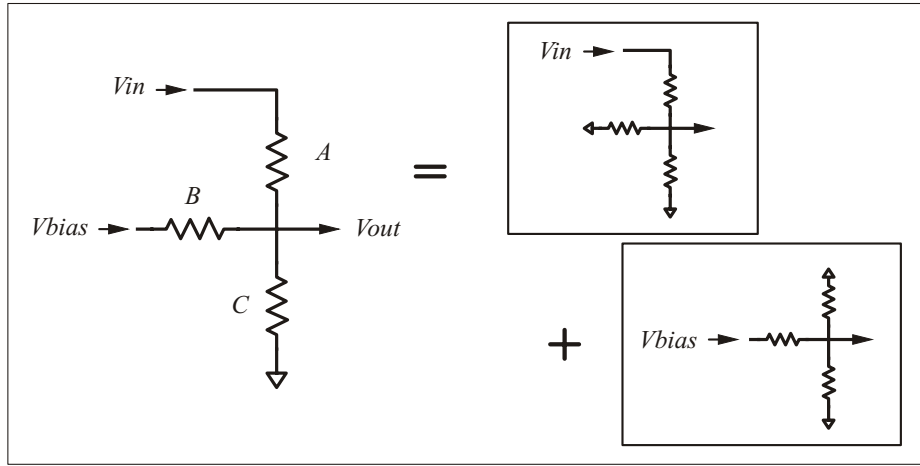

Figure 7: Biased three resistor divider
For the two resistor designs in the previous section, the required bias voltage is fixed by the input and output ranges, and may not be a changed to other possibly more convenient values. With the addition of one resistor, the bias voltage may be *specified* as part of the design process. Figure 7 shows the three resistor circuit, where the additional resistor C is connected from the V_{out} node to ground.
where our design goal is: given (s, b, V_{bias}) to compute (A, B, C) . Clearly the relationship between (s, b) and the resistors is more complicated than the two resistor equations (7) and (8), and one might even wonder if it is nonlinear. Actually, things are simpler than they appear at first. To see this, start over with Kirchoff's and Ohm's law at the V_{out} node in Figure 7:
With these equations in hand, the general design steps for the biased three resistor circuit in Figure 7 are:
The table in Figure 9 gives the three resistor values (A, B, C) to map a variety of bipolar input ranges into the output range $V_{out} = (0,5)$ using $V_{bias} = 5.0$ volts. These values should be used with the circuit in Figure 7. The resistor values have been scaled